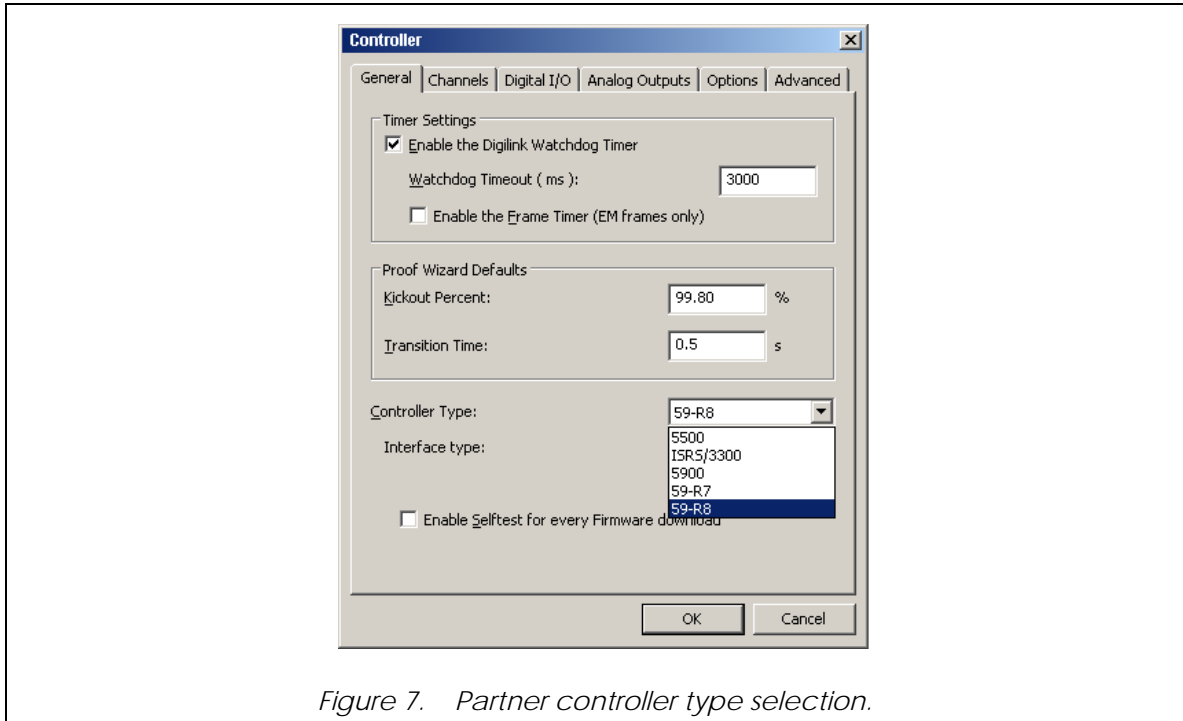

Figure 7. Partner controller type selection.
- v. On the General tab, verify the correct controller is selected (Figure 7).